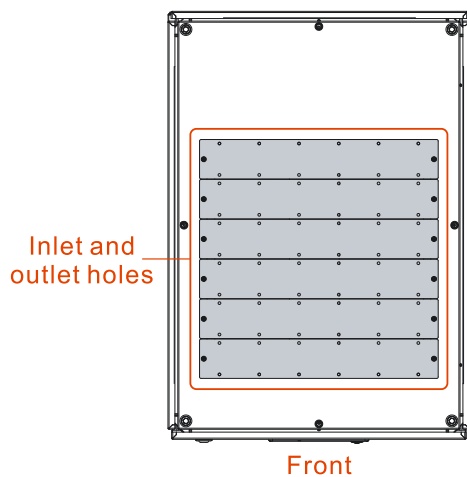
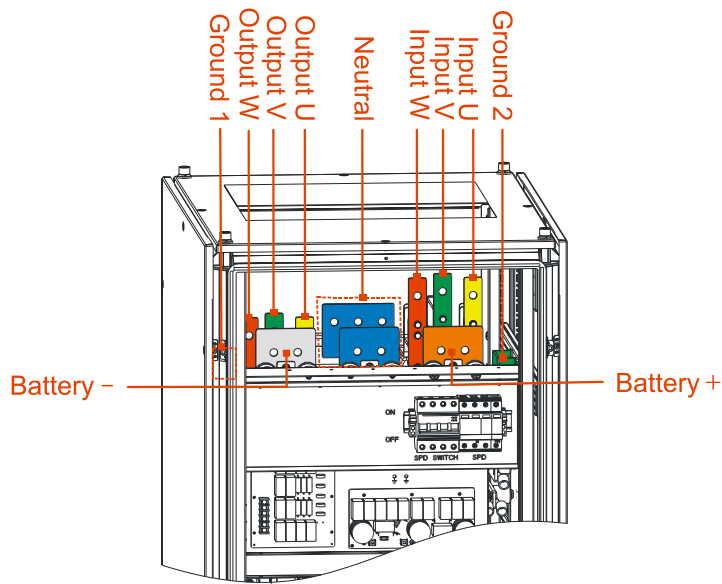
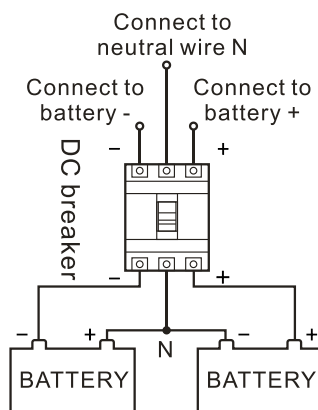

Figure3-25 Inlet and outlet diagram
Figure3-26 Wiring diagram 1
Figure3-29 Battery wire connection diagram
- Step 2 Draw the input wires, output wires, battery wires through the top holes(As shown in Figure3-25), and connect them to the corresponding copper bar(As shown in Figure3-26 and Figure3-29), and fasten the bolts.
It is suggested to equip DC breaker for battery DC input, specific wire connection is as shown in Figure3-29.